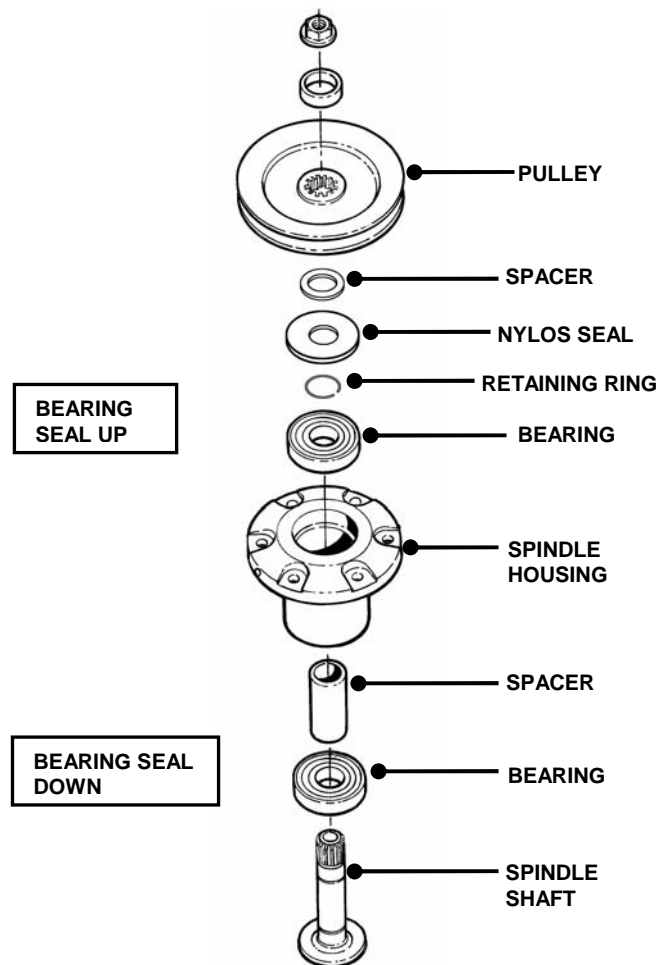

FIGURE 5.20
4. Top and bottom bearings are now removable. Pull out on inner race to slide bearing from housing. See Figure 5.20.